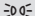

Fig. 94 Dash panel: lights control.
- Turn on the ignition and select the mode **AUTO** in the lights panel >>> **Fig. 94**.
- Disconnect the mode **AUTO** in the lights panel >>> **Fig. 94**.